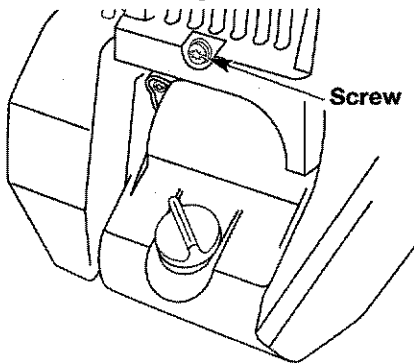

Fig. 51
3. Remove the screw behind the engine cover (Fig. 51).